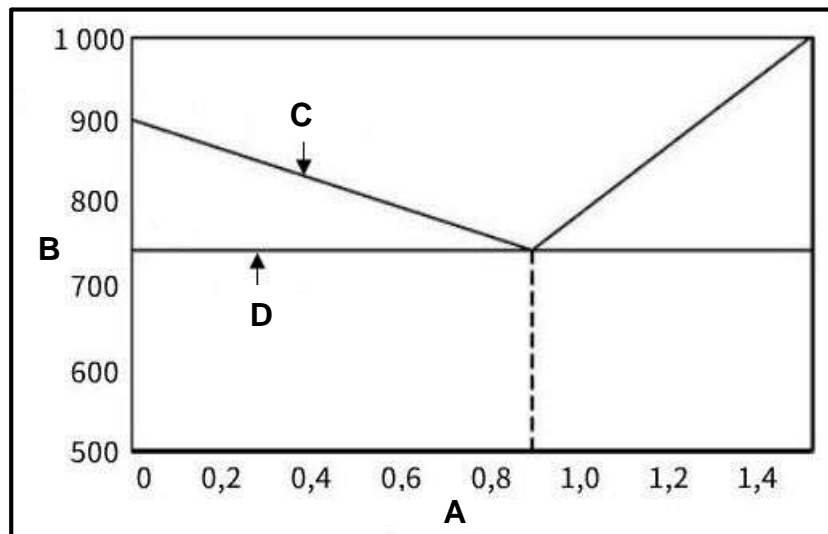

FIGURE 9.3
- 9.3 FIGURE 9.3 below shows the iron-carbon equilibrium diagram. Label the diagram as indicated from **A–D**.